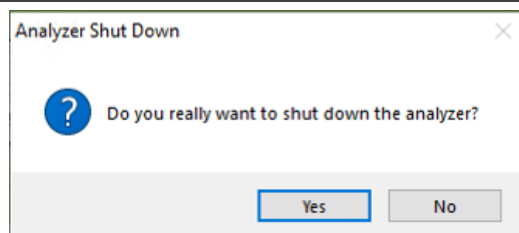

Figure 15: Shutdown Confirmation Pop-Up Dialog
If you have trouble turning off the analyzer software, do not use the Windows Task Manager to kill the process(es). Instead, double-click on the “Stop Instrument” icon in the Diagnostics folder on your desktop and select the default option to stop the software with the drivers running. See Figure 15 below.
3. A window will pop-up (Figure 15) prompting the user to confirm the shutdown. Once confirmed, the analyzer software and hardware will turn off. (Note: If three options are given on an older instrument, choose the **For Shipment** option.)